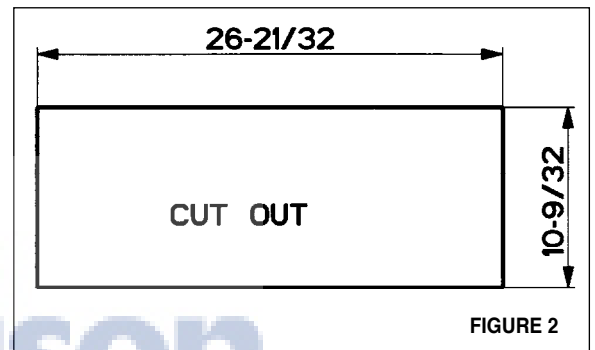

FIGURE 2
5. Make the cut-out opening where the rangehood will be installed (**FIGURE 2**).